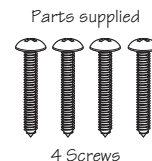

Figure 8B
5. Secure the drawer with the 4 screws. See Figure 8B.